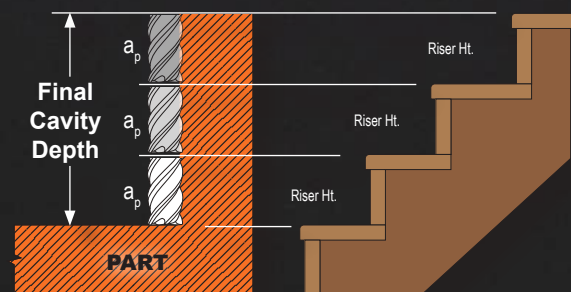

Fig. 3 - An example of reduced neck (RN) step down milling
With HEM roughing, we can safely use a length of cut (LOC) up to four times the diameter ($4xD$). The same tool works for roughing and finishing without any issues. However, if a dynamically driven tool path (High Efficiency Machining, aka HEM) is not available, we recommend using a reduced neck tool (RN) in conjunction with the most precise tool holder, as shown in figure 3. Cut to an axial depth of 1.5 times the tool diameter ($1.5xD$) while maintaining a considerable radial depth of cut (a_e). This will guarantee maximum efficiency by controlling the metal removal rate (MRR) and simultaneously maximizing your productivity.